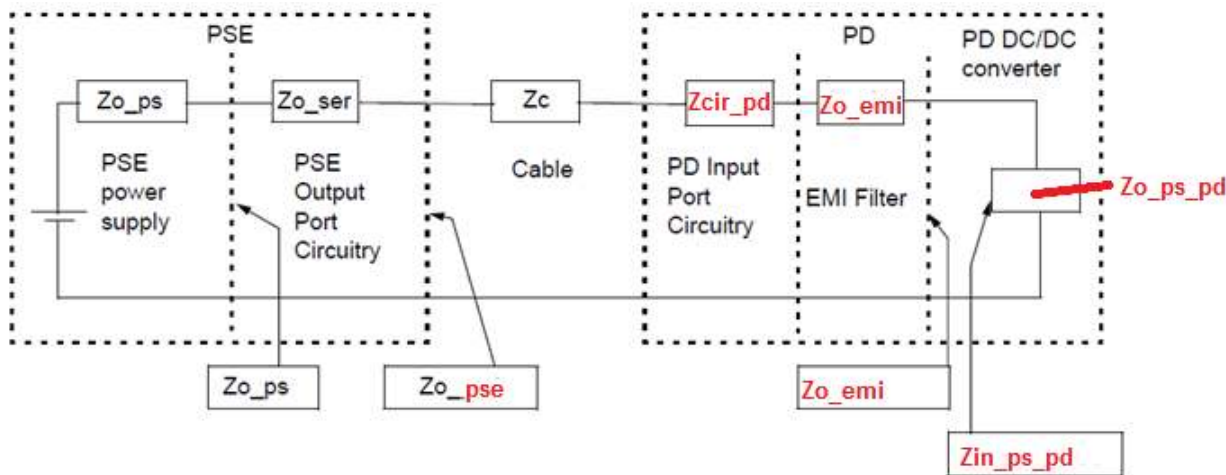

Figure 33A–1—PSE-PD system impedance allocation
In order to prevent potential oscillations between the PSE and PD, the sum of the PSE port output impedance (~~Zo\_port~~Zo\_pse), the cable impedance (Zc), the PD input port circuitry impedance (~~Zpd\_in~~Zcir\_pd) and the PD EMI output filter impedance (Z\_emi) should be lower than the PD power supply input impedance (Zin\_ps\_pd). All the above impedances are converted to the equivalent series impedance form as described by Figure 33A-1. ~~This sub-clause focuses on the PSE part.~~ [Redundant: It is in the title]
See Figure 33A–1 for the PSE-PD system impedance allocation.
2. Update Figure 33A-1 as follows:
See Figure 33A–2 for the test setup and Figure 33A–3 for the test requirements.
3. Delete Figure 33A-2 (no need to teach how to measure impedance of a port)
4. Delete Figure 33A-3 (the test requirements are in the text)